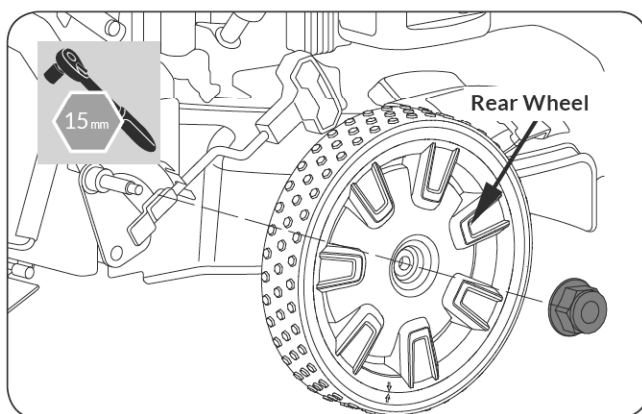

Figure 32
3. Assemble the new wheel with wheel nut. (See **Figure 32**)